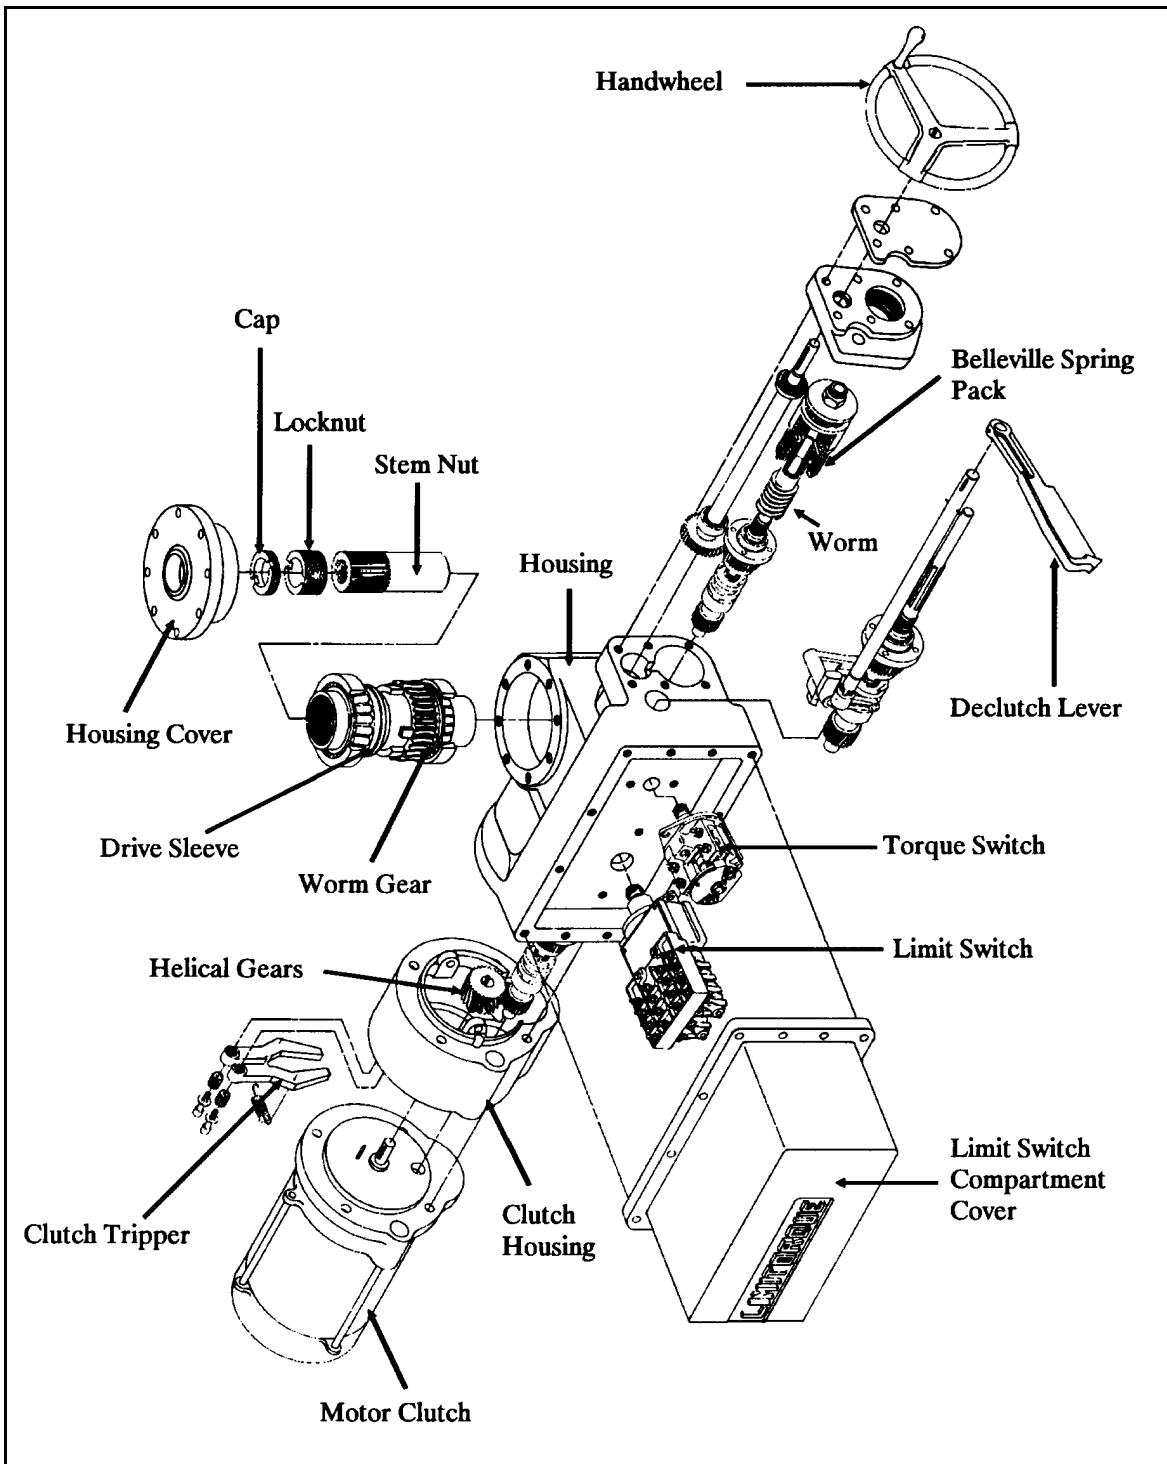

Figure 6-1 SMB-0 Exploded View
1. **Task Grouping** Refer to Figure 6-1
1a. Actuator Removal (Stem Nut Removal Method) Refer to Figure 6-1